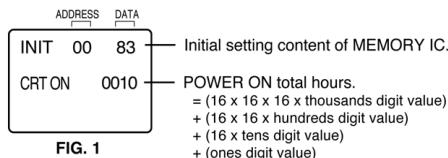

FIG. 1
2. Press both VOL. DOWN button on the set and Channel button (6) on the remote control for more than 2 seconds.
3. ADDRESS and DATA should appear as FIG 1.